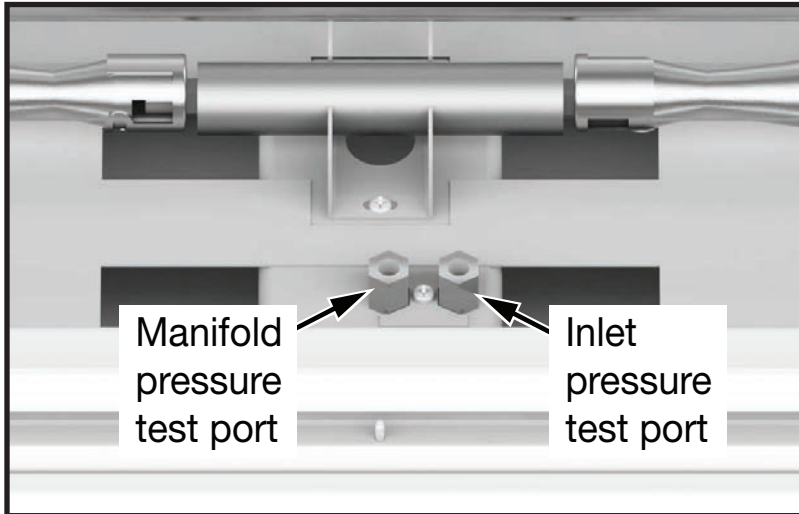

Figure 51: Pressure test ports.
1. Remove the plug from the pressure test port using a 3/16" hex key (Figure 51).